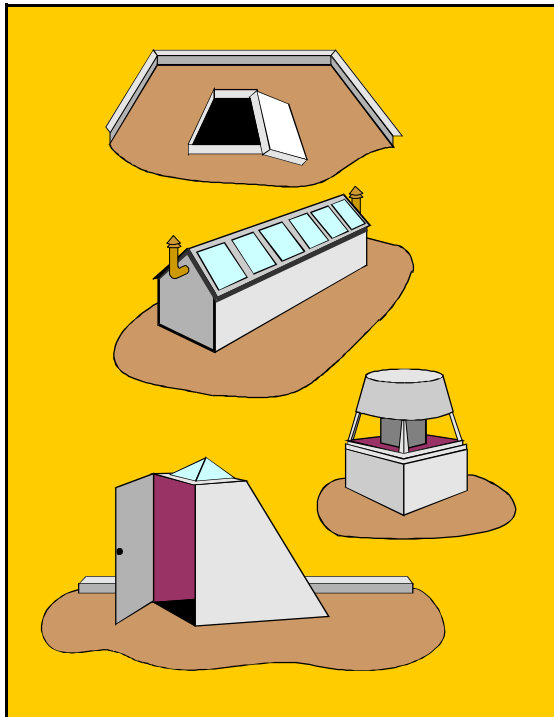

Fig 14.7 Types of Roof Opening
- number and location (if any) of natural openings; (See Fig 14.7)